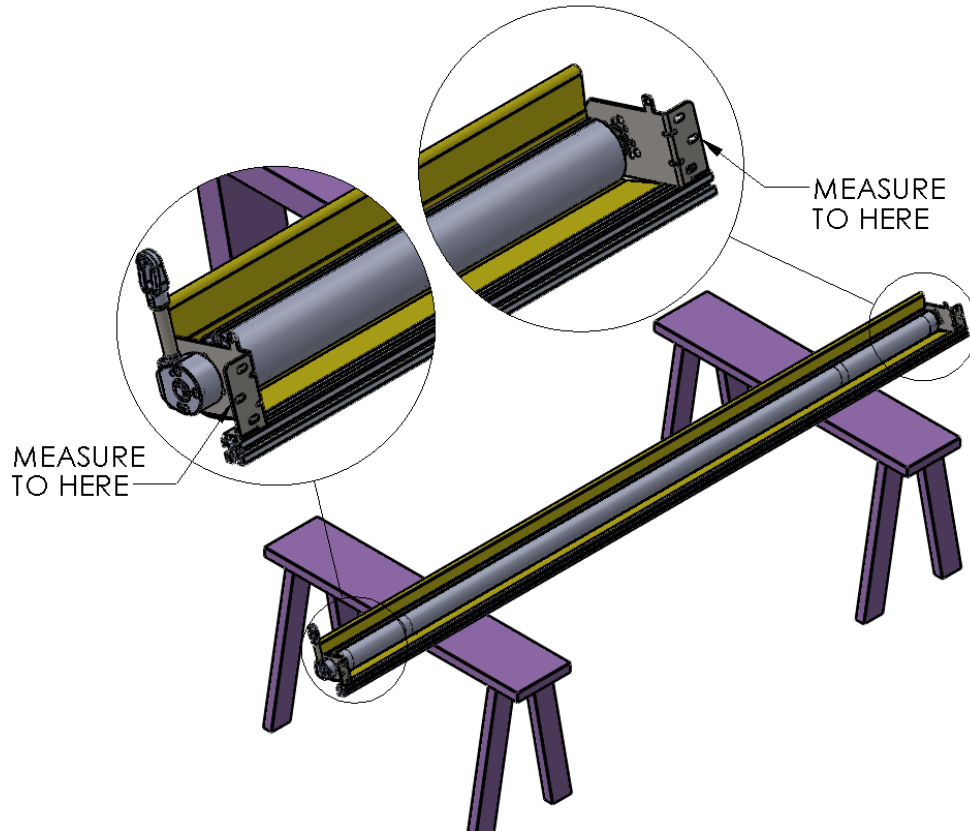

Figure 2 MEASURE DOOR WIDTH
2. Place the G1 Door roll Header Assembly across a safe and level work surface, then rotate the roll assembly frame so that the Header Bracket Mounting flanges are facing upward. (Figure 2 MEASURE DOOR WIDTH).
3. Measure the total width of the whole roll assembly from outermost edge of one Header Bracket's Mounting flange to the outermost edge of the opposite side. (Figure 2 MEASURE DOOR WIDTH)